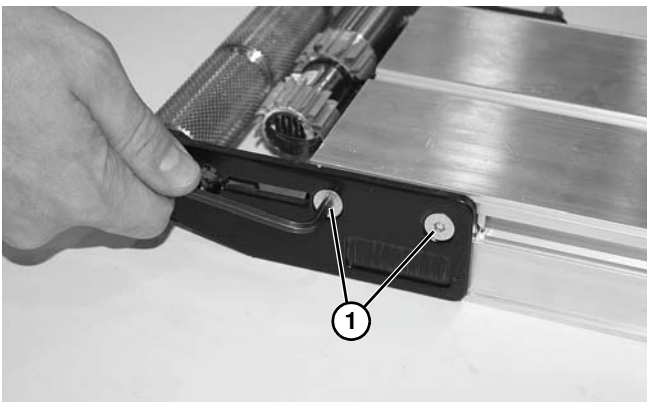

Figure 95
7. Remove two head plate fastening screws (Figure 95, item 1) from opposite side of conveyor.